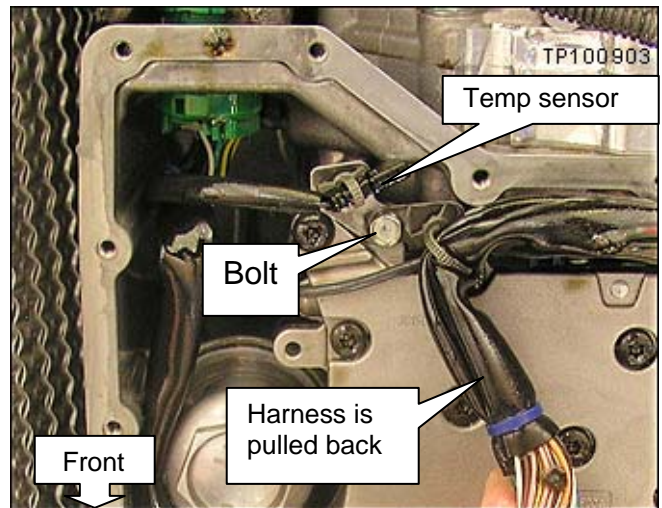

Figure 5
8. Remove the bracket bolt shown in Figure 5.